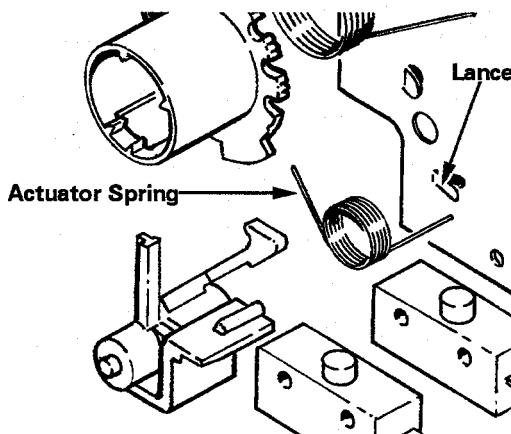

Figure 2-7
4. Unhook actuator spring from lance on timer bracket, *see Figure 2-7*.